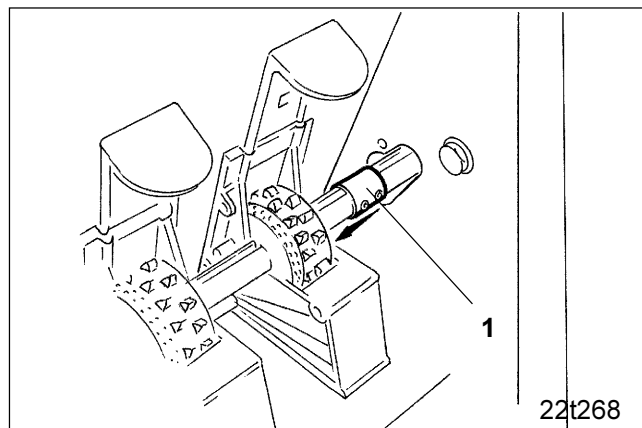
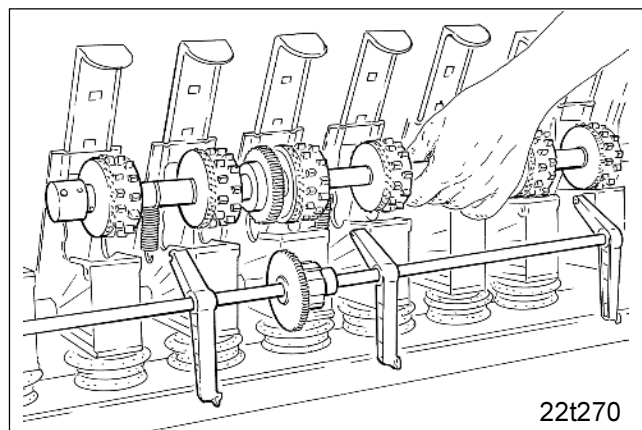

Fig. 10.22
Fig. 10.23
- Slacken the hex. bolts and move the connection bushes (Fig. 10.22/1) on the seed shaft. Disengage the seed shaft clutch and remove the seed shaft with the seed metering wheels starting on the right hand seed shaft half (Fig. 10.23).